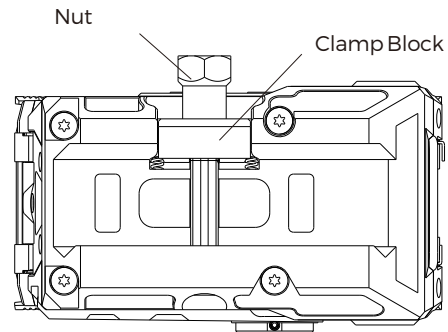

Fig4
1. Use the included 11mm tool to loosen the nut by rotating counterclockwise. (See Figure 4)